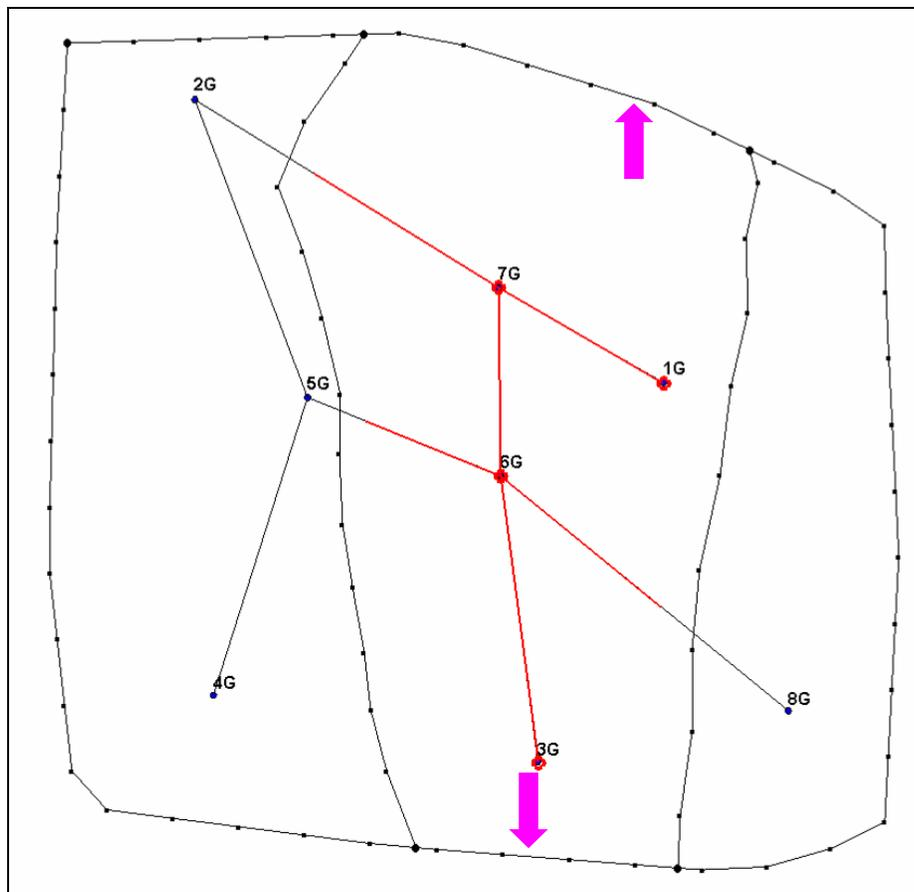

Figure 4. Arcs to be Marked as on the Outside Boundary.
2. While holding down the shift key, select the 2 arcs identified by the arrows shown in Figure 4.